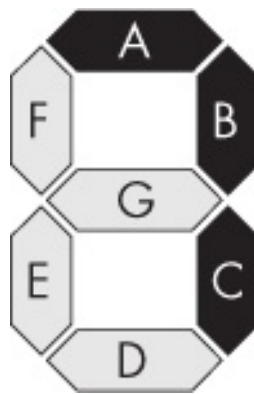

Figure 8-6: Illuminating a 7 on a seven-segment display
This module takes a 4-bit binary input **❶** and uses seven outputs to light up the appropriate segments in the display, given the input. The case statement **❷** captures all possible inputs, from 0000 to 1111 (0 through 15), and translates each number into the correct output pattern using the 7-bit `r_Hex_Encoding` register. Each bit in the register maps to one of the segments in the display: bit 6 maps to segment A, bit 5 maps to segment B, and so on. To see how this works, let's consider a specific input—say, 0111, which is the digit 7—as an example. Figure 8-6 illustrates how to illuminate a seven-segment display to show this digit.